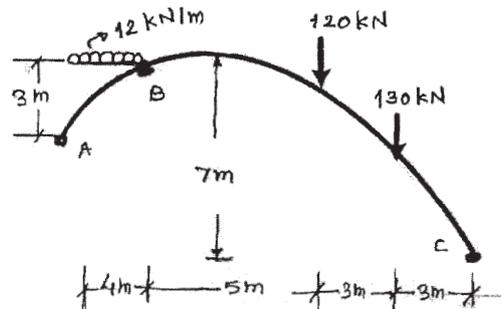

Fig. 5
- b) Determine the vertical reactions and horizontal thrust for the three hinged arch ABC shown in Figure 5. [8]